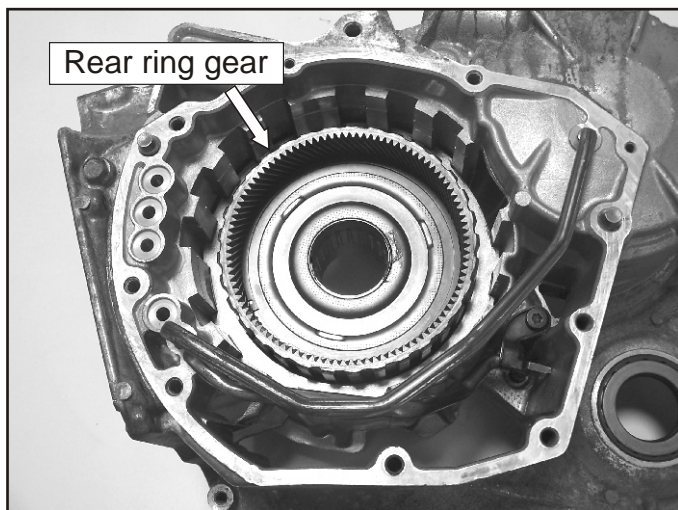

Figure 238
- 167. Assemble the rear ring gear into the case half over the splines of the counter drive gear as shown in Figure 238.